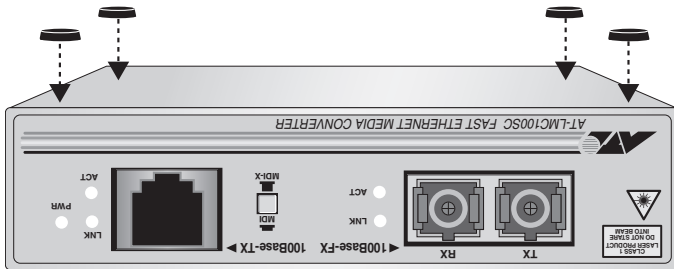

Figure 6 Attaching the Protective Feet
4. Attach the four protective rubber feet to the bottom of the media converter. See Figure 6. **Do not attach the protective feet if you are installing the unit in an AT-MCR12 chassis.**